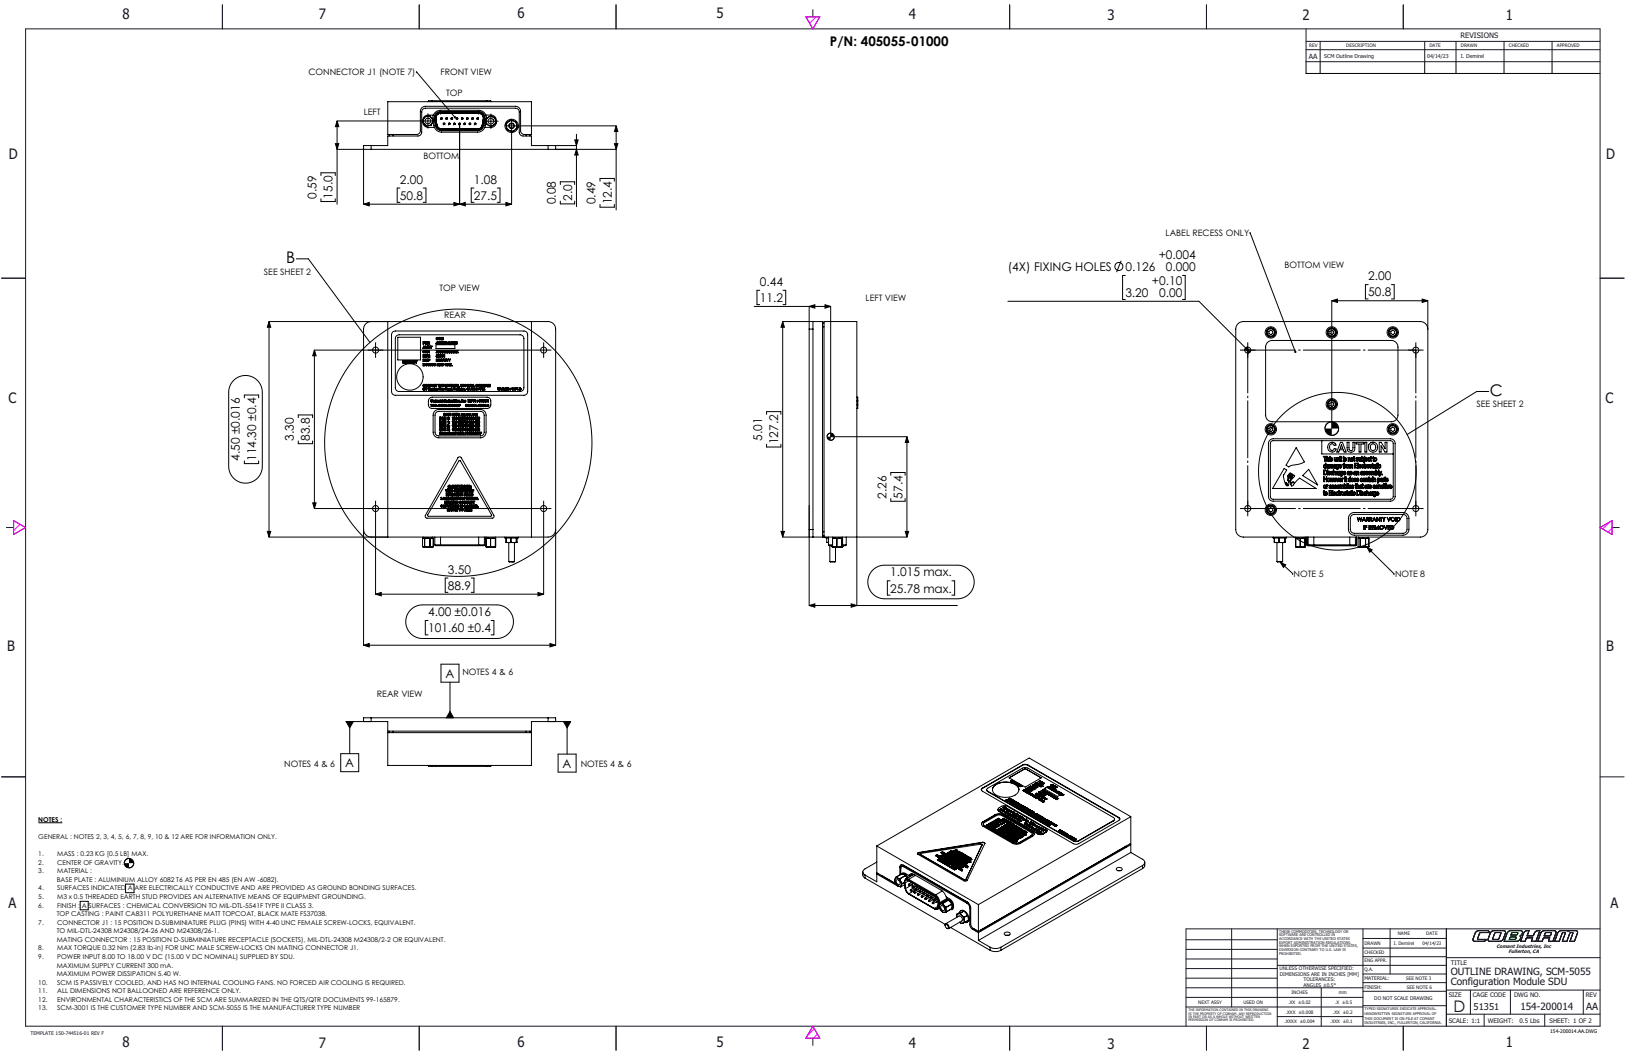

Figure 3-3: Outline drawing SCM-5055 (1/2)
4. Mount the SCM to the aircraft structure using four fasteners through its mounting flange. Refer to **Figure 3-3: Outline drawing SCM-5055 (1/2)**. The flange thickness is 2 mm.
3. Bond the SCM to the aircraft structure via the top and bottom surfaces of the SCM mounting flange. These are electrically conductive and are designated as the equipment's ground bonding points. Refer to **Figure 3-3: Outline drawing SCM-5055 (1/2)**.